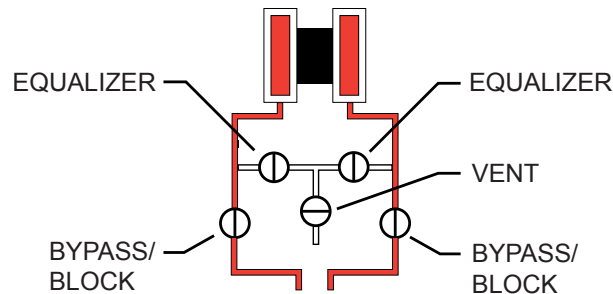

Figure 2.18—Valve positions for closing the vent valve
1. Close the vent valve (Figure 2.18).